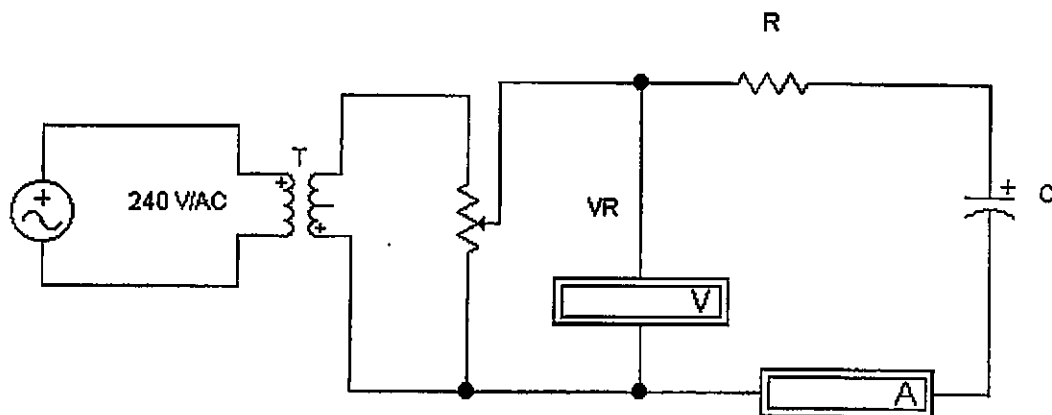

Fig 4.1
- 1- Connect the circuit of Figure 4.1, using the 18K-ohm resistor for R and the 0.1 MFD capacitor C.